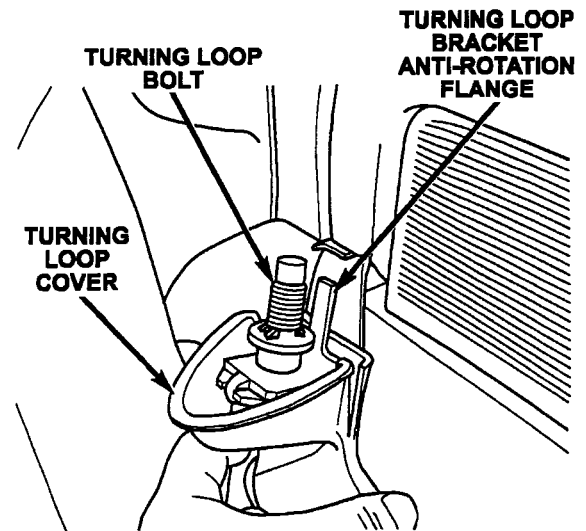

Figure 4
15. Align the turning loop mounting bracket anti-rotation flange with the slot in the D-pillar and install the third row seat belt turning loop to the D-pillar. Tighten the bolt to 29 ft-lbs (39 N·m) (Figure 4).